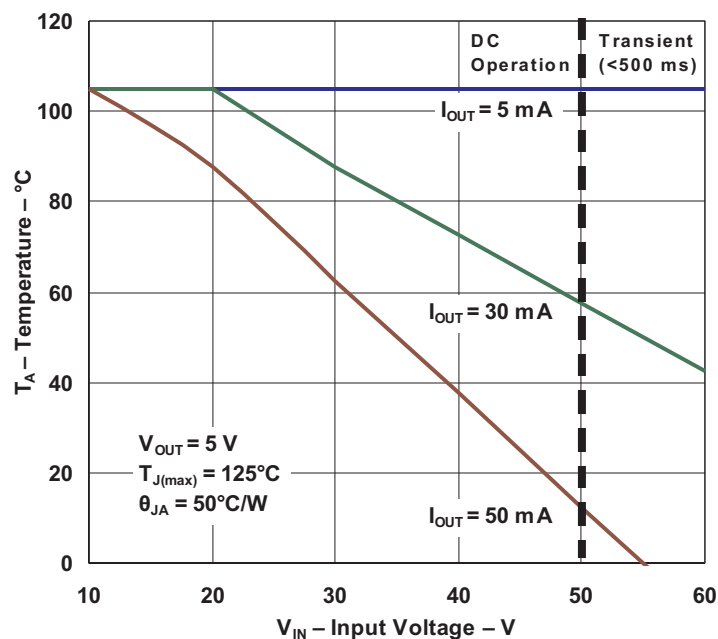

Figure 1. Safe Operating Area
(1) Stresses beyond those listed under *Absolute Maximum Ratings* may cause permanent damage to the device. These are stress ratings only, which do not imply functional operation of the device at these or any other conditions beyond those indicated under *Recommended Operating Conditions*. Exposure to absolute-maximum-rated conditions for extended periods may affect device reliability.
(2) Transient: 500 ms for  $V_{IN} > 50$  V
(3) The junction temperature must not exceed 125°C. See Figure 1 to determine the maximum ambient operating temperature versus the supply voltage and load current. The safe operating area curves assume a 50°C/W thermal impedance and may need to be adjusted to match actual system thermal performance.